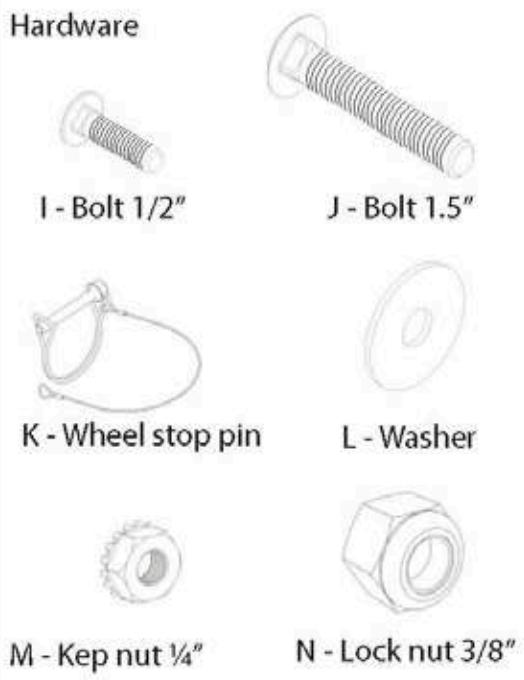

Figure 1
Using a flat tray assembly from step 5, attach to front L-channel (part D) through round hole located second from the end on the bike tray. Mount lanyard of the wheel stop pin (part K) between L-channel and horizontal wheel tray. Attach vertical tray through top mounting holes to rear U-channel (part C) using 1.5" bolts and nuts. See Figure 1
- Double check location and assembly of all parts, reference Figure 1. Then tighten down all nuts snuggly with ratchet. Move rack into final location.